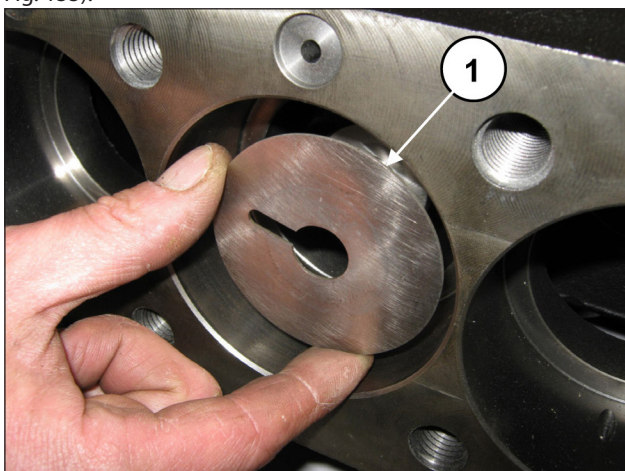

Fig. 155
Remove the spray-guard rings from the piston guides (pos. ①, Fig. 155).